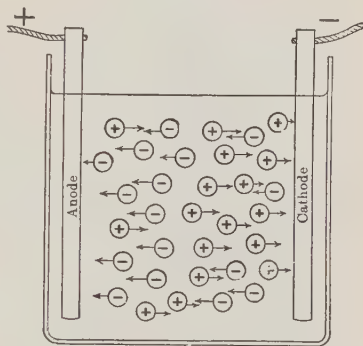

FIGURE 433. — ELECTROLYSIS.
**292. Behavior of Ions in Solution.** — When an electrolyte dissociates, the solution contains great and equal numbers of positive and negative ions, freely moving about in the water. As these positive and negative ions come within range of one another, they are continually recombining, because of the attraction between their charges, and then again dissociating. Since the + and - ions are present in equal numbers, there is no external evidence that the liquid is electrically charged. If, however, two oppositely charged bodies, like the terminals of the electric circuit in Experiment 111, are introduced into the solution, the negative ions are repelled by the negatively charged - terminal and attracted by the + terminal. The action on the + ions is just the reverse. The net result is the establishment of two distinct drifts or currents of ions: - ions to the + terminal and + ions to the - terminal (Figure 433). *It is by means of these definitely moving streams of ions that the electric current is conducted through the liquid.*